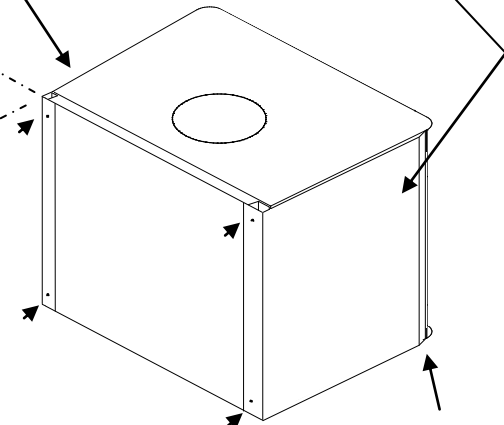

Figure 11B
2. Insert front end of side shield behind side angle on front side of stove. Align top of side shield with top of rear shield. Mark holes on rear shield through holes in rear of side shield. Using four self tapping screws drill four holes in the locations marked. Tighten bottom screws and leave top screws loose for step 3. Use same step to install side shield on the opposite side of stove. See figure 11B.